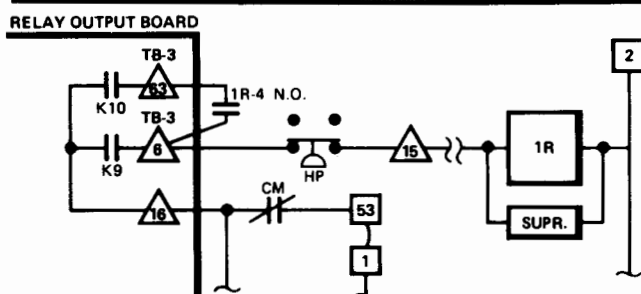

FIG. 17 - RELAY OUTPUT BOARD
TB3-6 - Motor starter contacts (Ref. Fig. 17). Part of 1R (start relay) anti-chatter circuit. After the 30 second pre-lube (**START SEQUENCE INITIATED**) the Micro Board energizes K9 and K10 coincident with the Micro Board going into "RUN" mode (**SYSTEM RUN-LEAVING TEMP CONTROL**). 1R is energized thru K9 contacts causing 1R-4 contacts to close creating a holding circuit thru 1R-4 and K10 contacts. After 200 milliseconds, the Micro Board de-energizes K9. 1R remains energized thru 1R-4 and K10 contacts. If 1R fails to energize or if it de-energizes at any time while the Micro Board is in **SYSTEM RUN-LEAVING TEMP CONTROL**, 1R cannot again energize until K9 is again energized at completion of **START SEQUENCE INITIATED** (the next chiller start). When 1R de-energizes while **SYSTEM RUN-LEAVING TEMP CONTROL** is displayed the Micro Board senses a loss of motor current (for 25 continuous seconds) and shuts down the chiller and displays **AC UNDER-VOLTAGE-AUTOSTART**. Refer to explanation of this message in Operating Manual Form 160.49-O1.
TB3-63 — Motor starter stop contacts (Ref. Fig. 17). Part of 1R (start relay) anti-chatter circuit. 115 VAC when Micro Board is commanding the compressor motor to run and the motor controller contacts (CM) are closed. Refer to explanation of TB3-6.